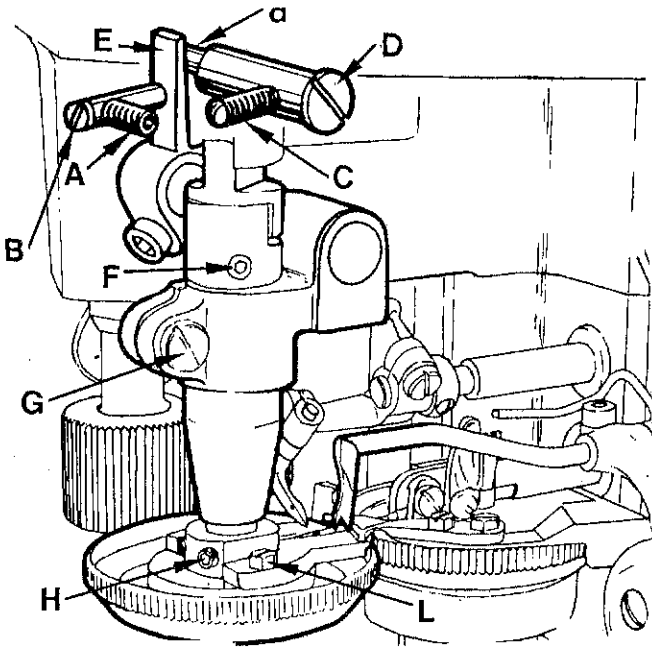

Fig. 22
- loosen off screw C (fig. 22)
- rotate shaft D so that the eccentric part (A) touches the appendix of lever E